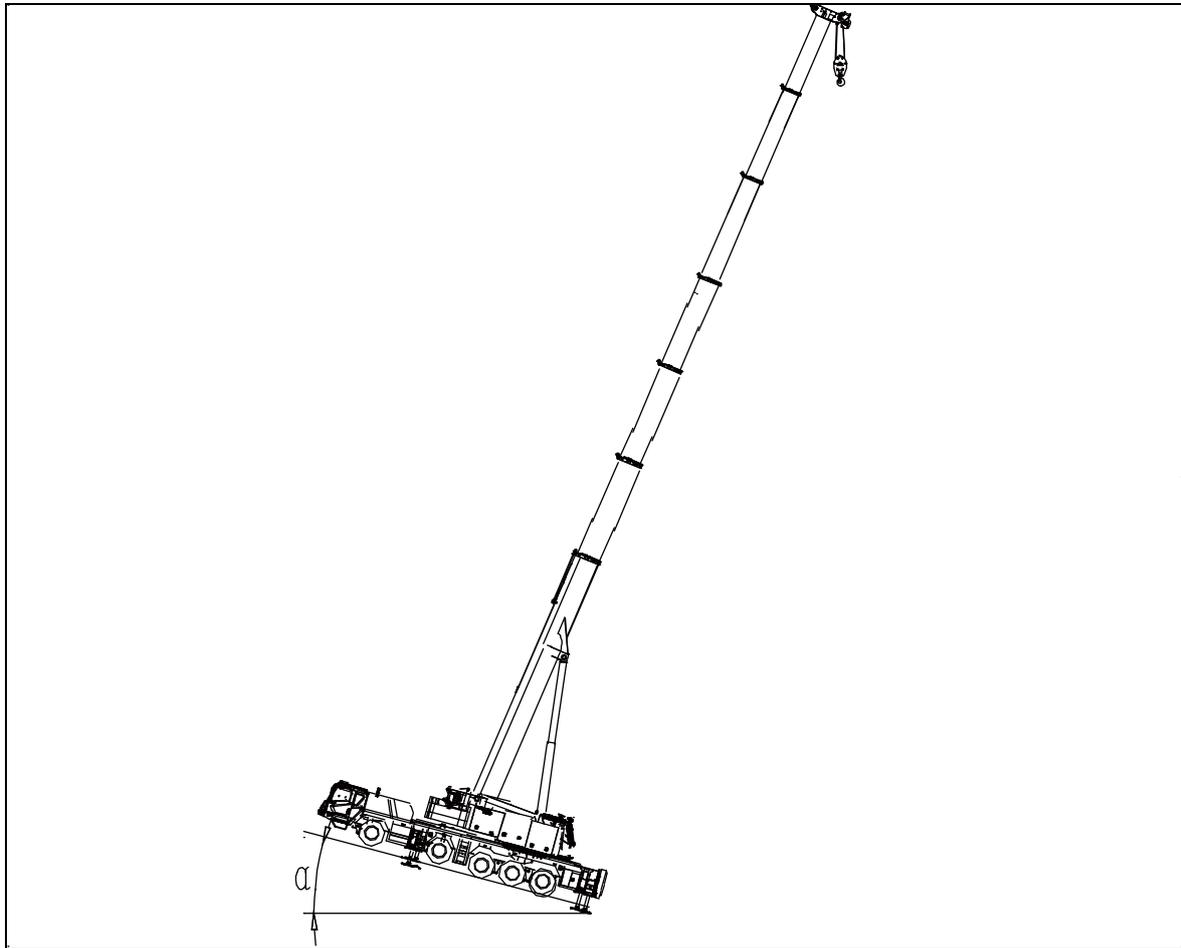

Figure 2-1 Inclination angle of crane
- d) Before operation, level the crane. Under any working conditions, the inclination angle α of the crane cannot be more than 0.6° . Refer to Figure 2-1.